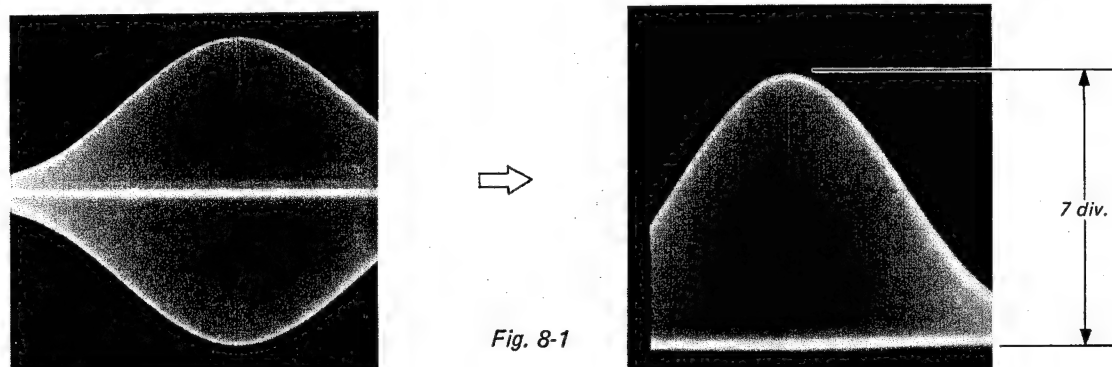

Fig. 8-1
3. Make the V/div of oscilloscope into VARIABLE, and match the upper section of waveform to 7 div as shown in Fig. 8-1.